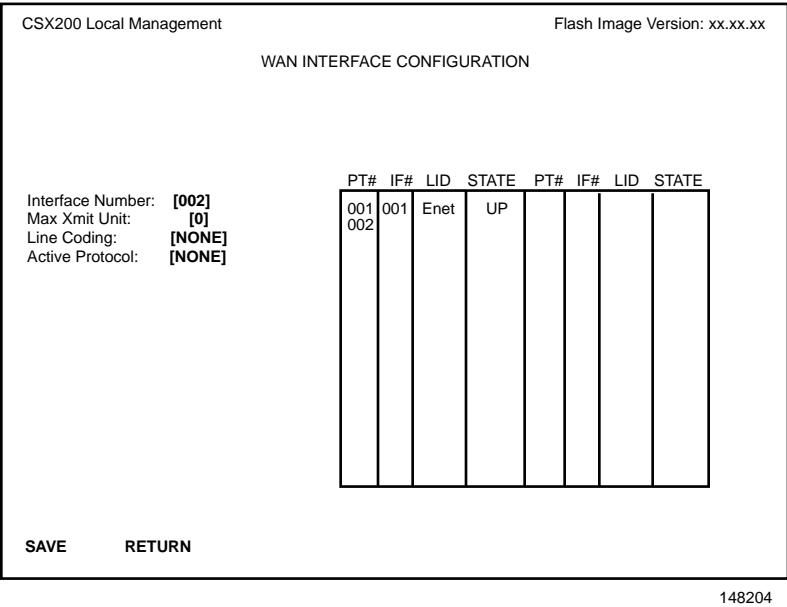

Figure 67 T1 WAN Interface Configuration Screen
This section describes the features of the WAN Interface Configuration screen. Access the screen by using the arrow keys to highlight the **WAN Int Config** option at the bottom of the WAN Physical Configuration screen, pressing ENTER. The WAN Interface Configuration screen shown in **Figure 67** displays.
This screen is accessed through the WAN Physical Configuration screen. Refer to **Figure 67** and proceed with the following steps to configure the WAN Interface through Local Management.
2. Insert an interface number (see NOTE below) into every Time Slot being used (in the example shown in **Figure 67**, 16 Time Slots are being used, the rest have zeros in them). Type the number, press ENTER, then use the arrow keys to highlight the next Time Slot field. Exit this field by using the arrow keys. The cursor automatically moves to the **T1 Line Coding** field.
In the example shown in **Figure 67**, the interface range for the CSX200 is 2–25. Although any of these values may be used, Cabletron Systems recommends using the first available interface number (in this example interface #2).